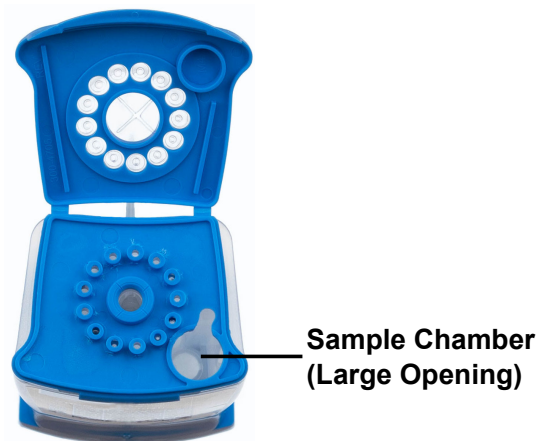

Figure 5. Xpert Xpress SARS-CoV-2 Cartridge (Top View)
8. To transfer the sample to the cartridge, squeeze the top bulb of the transfer pipette completely again to empty the contents of the pipette (300 μ L) into the large opening (Sample Chamber) in the cartridge shown in Figure 5. Dispose of the used pipette.
3. Using a clean transfer pipette, transfer one draw of the external control sample (300 µL) into the large opening (Sample Chamber) in the cartridge shown in Figure 5.